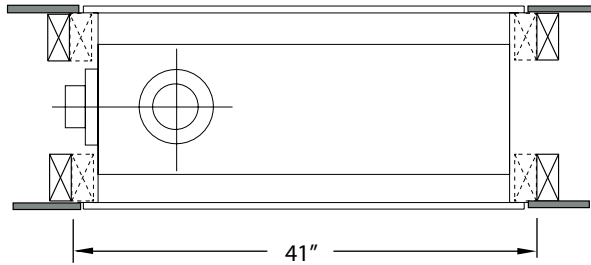

Figure 2c. Back frame dimensions.
- 4.) Next, tack four jack studs (vertical, "broken line") in place, **Figure 2c**.